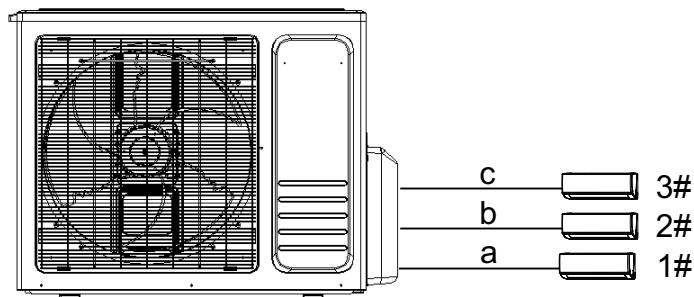

Fig.9
3. Example: Set of MULTI 3-27 air conditioners installed as follows:Fig.9.